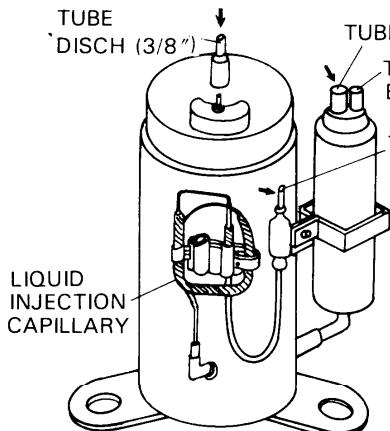

Fig. D-15
- 5) With an Oxy-Acetylene torch apply heat uniformly and unbraze the joints of upper section of the Liquid Injection Capillary tube to the compressor, the upper section of the accumulator and the upper section of the compressor discharge tube respectively, and pull them free with pliers. Fig. D-15 shows unbrazing points with arrows.